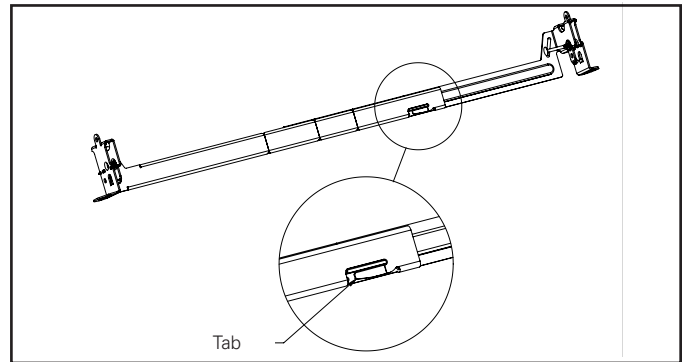
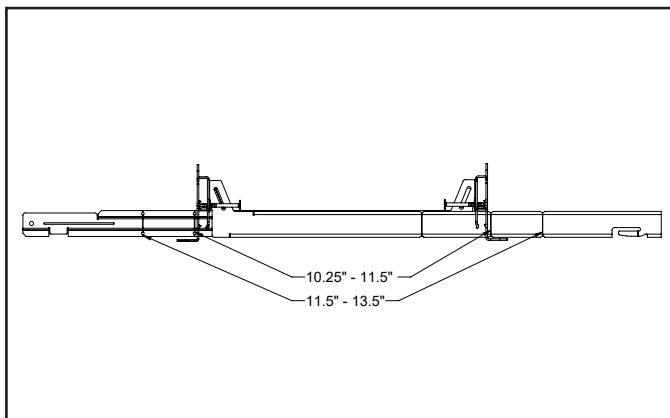

Figure 3.
Figure 4.
2. Bar Hangers may be shortened to fit 12" (30.5 cm) and extend max to fit 24" (61 cm) on center framing, remove hanger bars from housing by depressing tab and sliding apart (Figure 3). Break off at score lines by bending in direction shown – no tools required. (Figure 4).